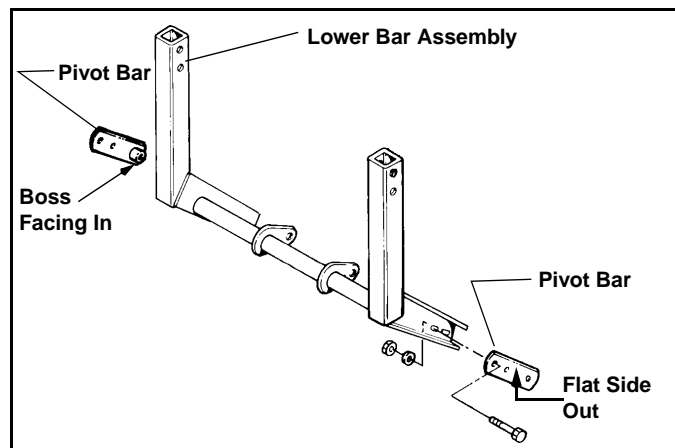

Figure 2
5. Loosely assemble Pivot Bar to Lower Bar Assembly outer arms. Use, two (2) 3/8" x 1-1/4" Capscrew (#22), with two (2) 3/8" Washers on each Capscrew and Nylock Nuts provided per Pivot Bar. (See Figure 2)
NOTE: Raised Boss on Pivot Bar must face to INSIDE of assembly. (See Figure 2)